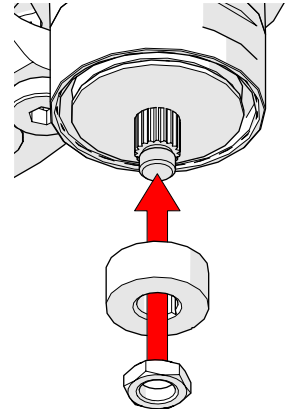

Fig. 194 - Install new drive wheel and nut
5. Install a new drive wheel onto the idler shaft and securely tighten the nut. Tighten the nut to 7 Nm (5 ft-lbs) using a torque wrench (Fig. 194).